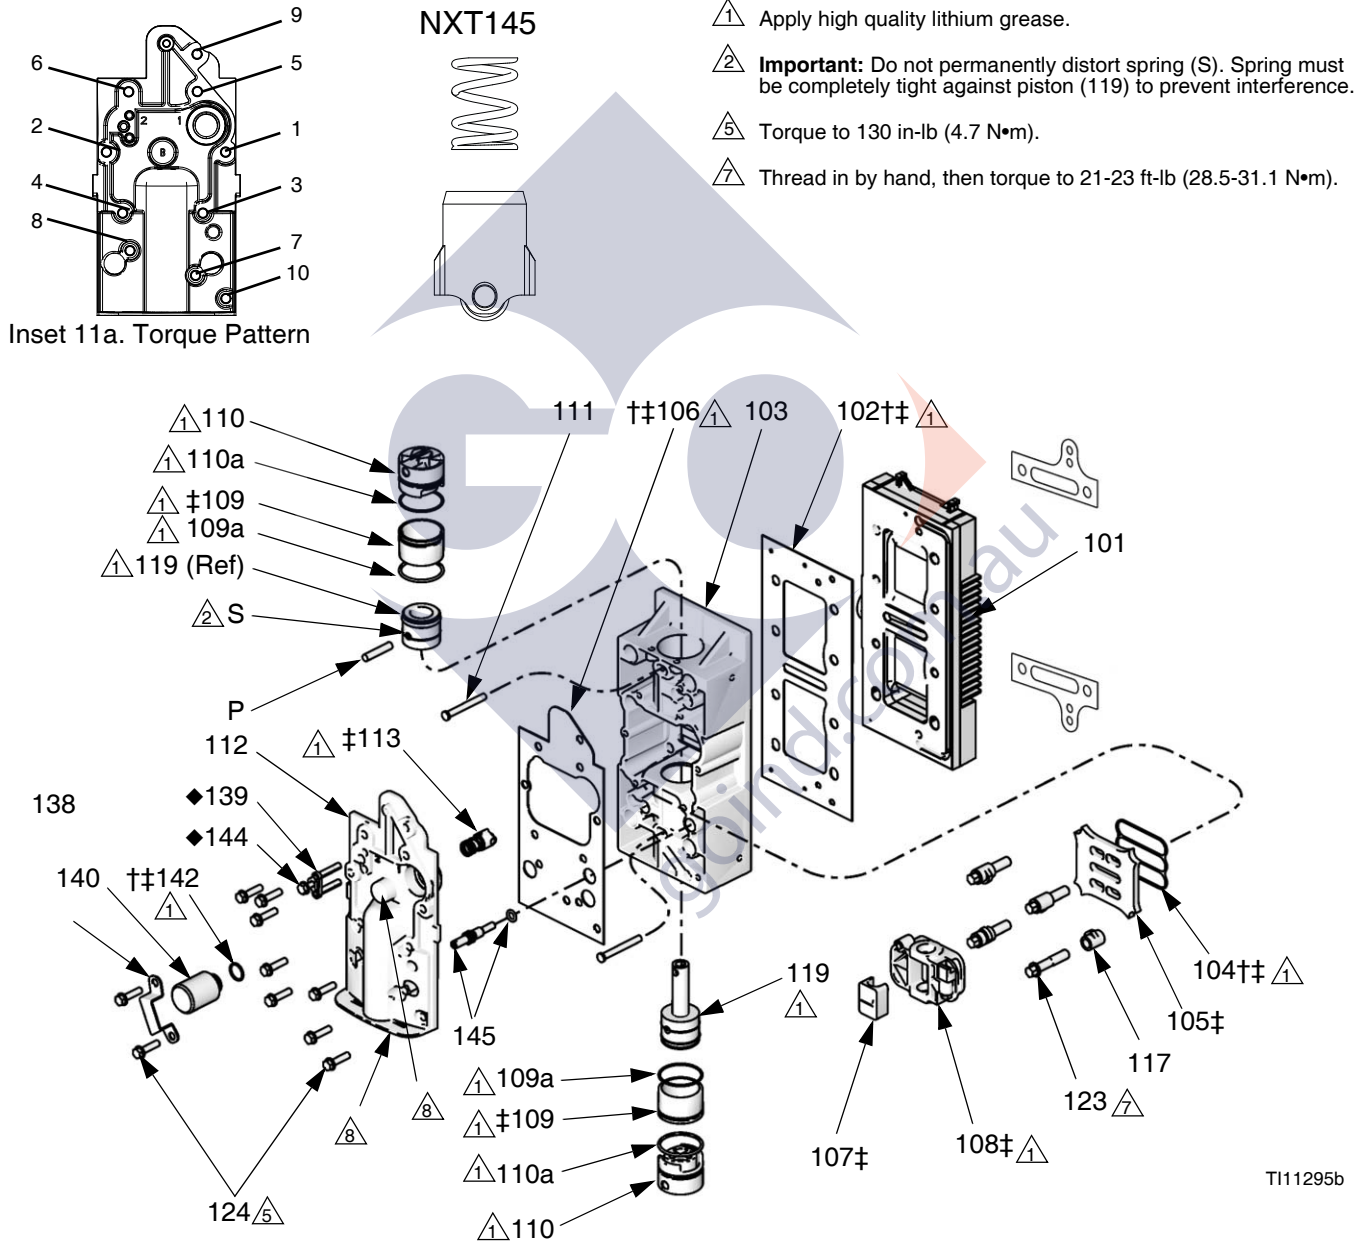

FIG. 11. Air Valve Repair (NXT107 Shown)
2. See FIG. 11. Remove the screws (124), carriage cover (112), spring-loaded detent (113), gasket (106), and de-icing control (145).
4. See FIG. 11. Rotate the piston valve assembly (119) so the pins (P) are accessible. Raise the spring (S) and push one pin out. Push one end of the piston valve out the top of the valve body (103) and the other end out the bottom. Do not permanently distort the springs (S).
5. Inspect the piston and seals. If damaged, replace the piston valve assembly (119). The open seal lip must face to the center.
6. Carefully remove the sleeves (109). Inspect the seals (109a) and the inside surface of the sleeves and housing (103) for wear or damage.
7. Remove the carriage (108) and carriage detent (107).
8. Remove the screws (123), retainers (117), valve plate (105), and seal (104).
9. Inspect the ramp (107), carriage (108), plate (105), body (103), and seal (104) for damage or cracks.
5. Lubricate o-rings (110a). Install the piston stop (110) and retainer pins (111).
6. See FIG. 11. Lubricate and install the spring-loaded detent (113‡), gasket (106†‡), carriage cover (112), and screws (124). Torque to 130 in-lb (4.7 N•m), following the pattern shown in Inset 11a.